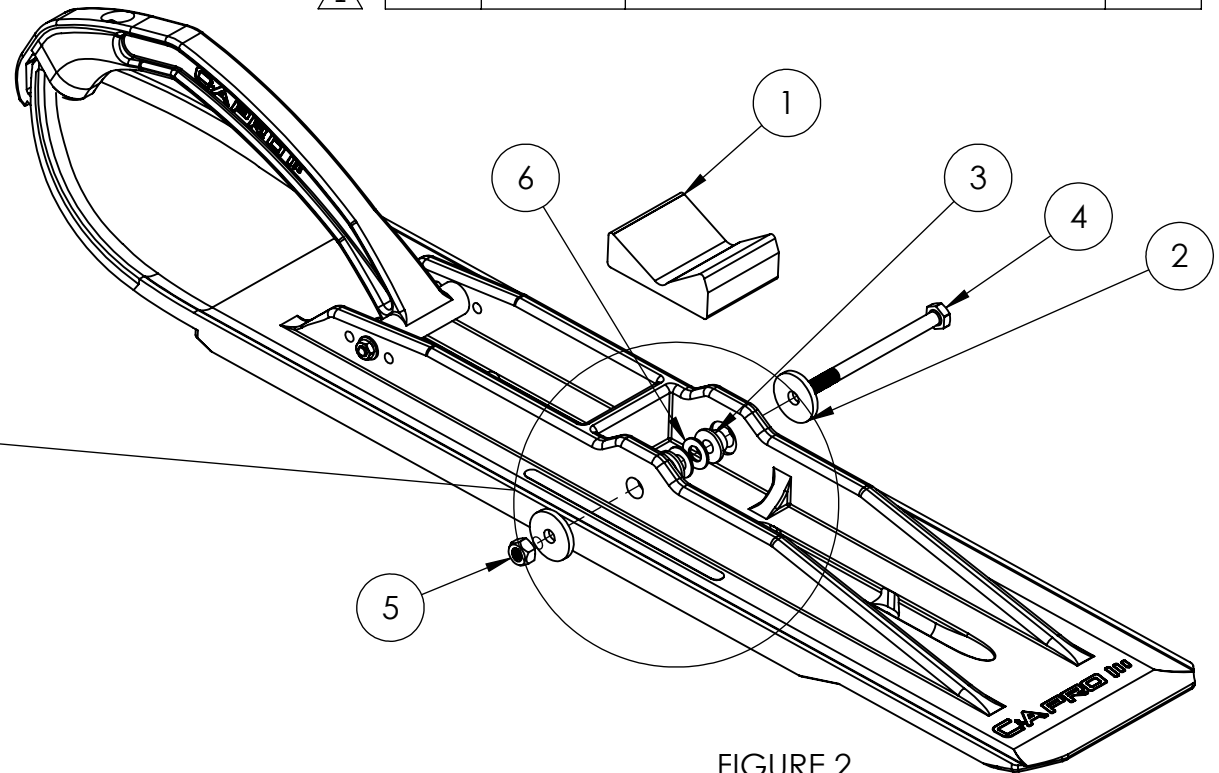

FIGURE 2
5. Place the rubber dampener in the ski. (see Figure 2 for dampener orientation)